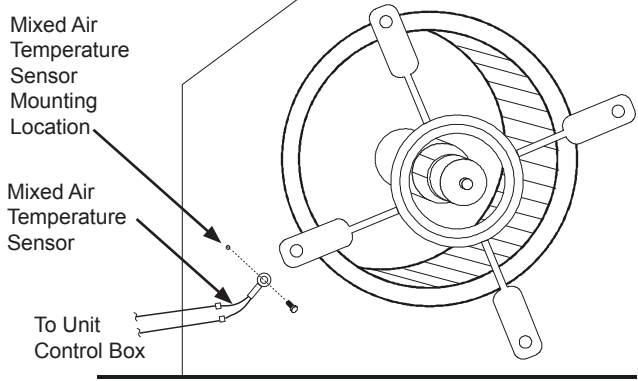

Fig. 10 - Mixed Air Sensor Placement
14. The mixed (or supply) air temperature sensor looks like an eyelet terminal with wires running to it. The sensor is located on the "crimp end" and is sealed from moisture. Locate the sensor in the economizer hardware bag. Mount the mixed air temperature sensor (provided) to the lower left section of the indoor fan blower housing. (See Fig. 10.) Use the screw provided and use existing hole. Locate the orange and brown wires in the wire bundle in the indoor fan section. Connect the orange and brown wires to the corresponding connections on the mixed air temperature sensor. (See Fig. 14.) Reinstall the indoor fan motor access panel.